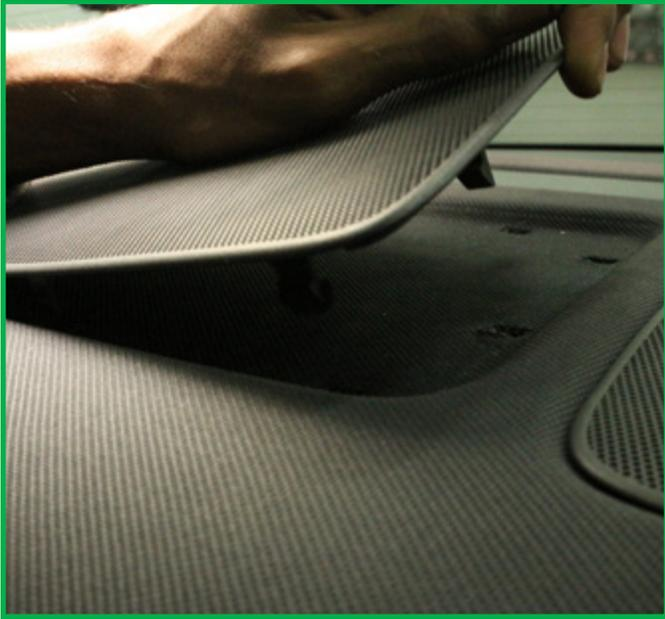

FIGURE 10
8. Remove rear speaker panel and speaker to reveal top strut mount nuts. (Figures 10, 11)